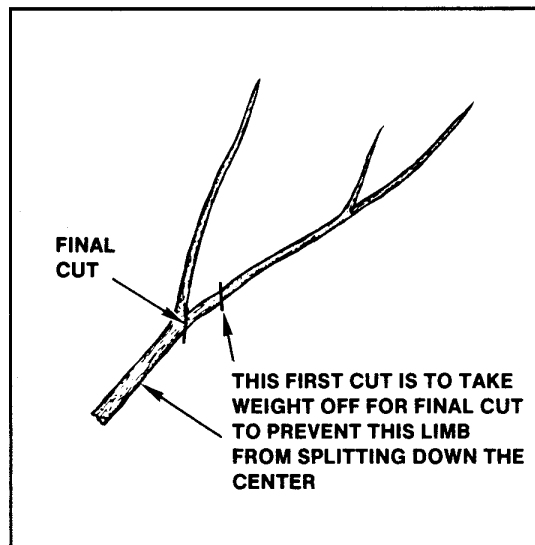

Figure 1. Flush Cutting a Limb Having a Tendency to Split or Tear.
4. In sawing limbs which have a tendency to split or tear when making a single saw flush cut, (as in figure 1), it is advisable to make more than one cut. The first cut is made a few inches from the point of the flush cut. Removing the weight of the limb being trimmed out and leaving a short stub. The stub is then flushed off as described above (see figure 2). Whenever practical, the cut shall be treated with tree paint if it is larger than 1 inch in diameter. This technique will avoid breaking the lateral which you are trying to save or splitting the remaining limb down the center as the flush cut is made.